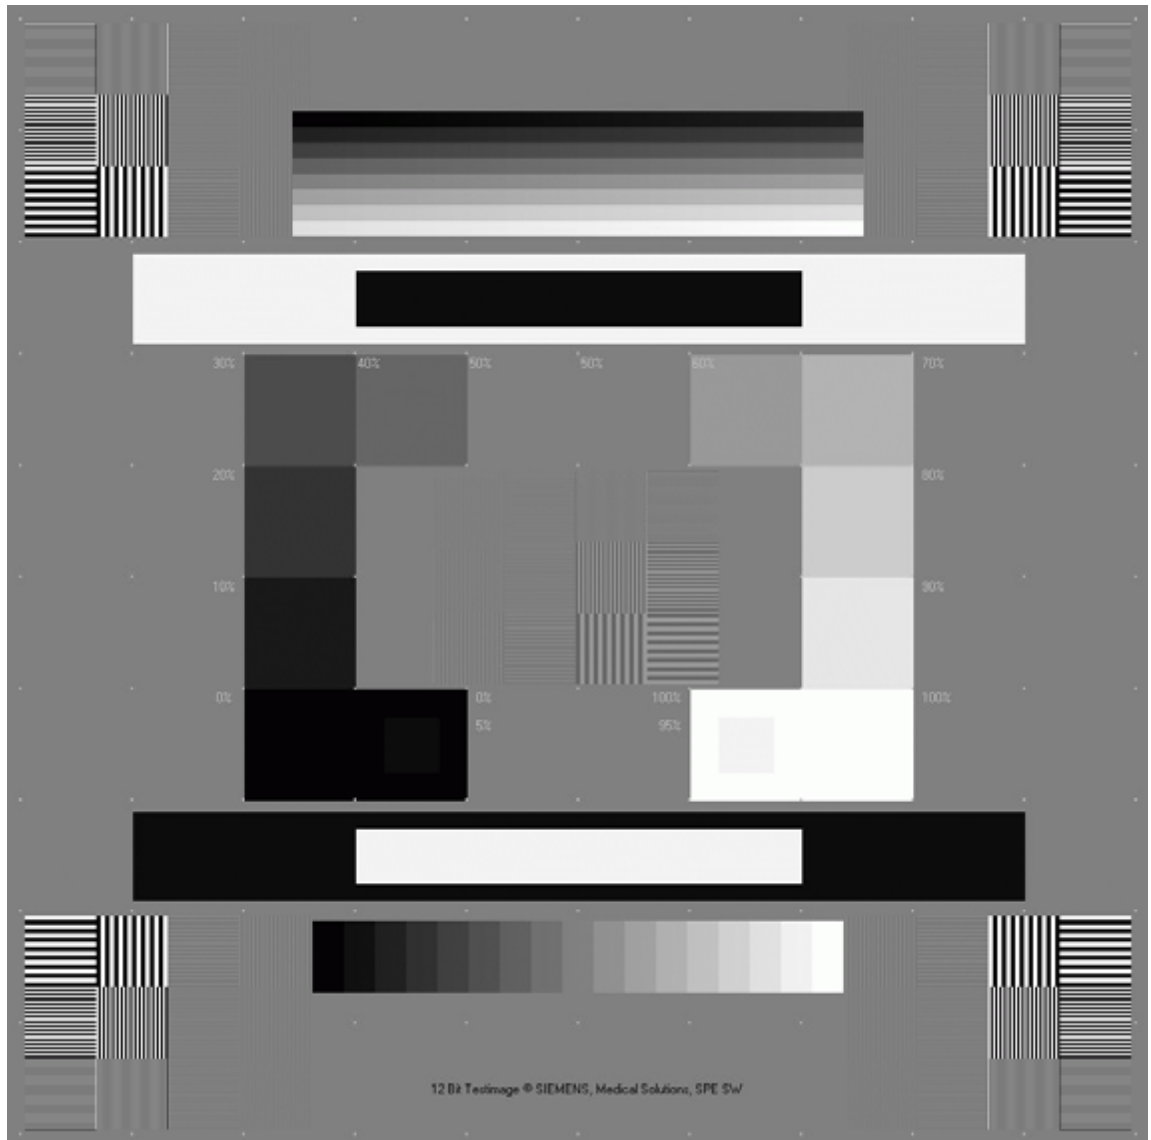

Fig. 2: 12-bit test image
- Measure the density values in 11 gray levels in the SMPTE test image (Fig. 2 / p. 17) (for each film size).
5. Measure SMPTE test image (Fig. 2 / p. 17) and verify the XaCorr16b-bspline - LUT using the "density values" table